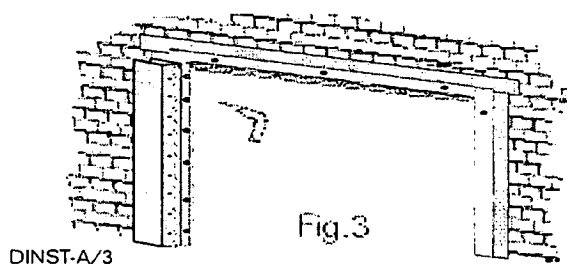

Fig.3
Fasten the hinge 1/8" - 3/16" down from the header approximately 3/16" from the felt with 2 #8 x 1" Use the slotted holes at the top and bottom, then adjust the hinge to close against the felt without binding. Fasten off rest of hinge screws. (fig.3)
5) **Bug Channels:** with the doors closed measure from the edge of the active door to the z-bar & from astragal to z-bar on stationary door. Cut the bug channels, and then slide onto the bottom of the doors. (fig.3) lift up to meet the hinge channel and adjust other end. Fasten to doors with 3 #8 x 1/2" screws on both sides of doors.